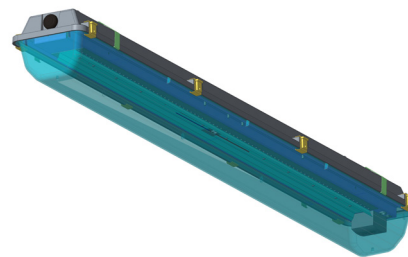

FIG 5
2. Snap the fixture onto the mounting brackets (Fig 5).